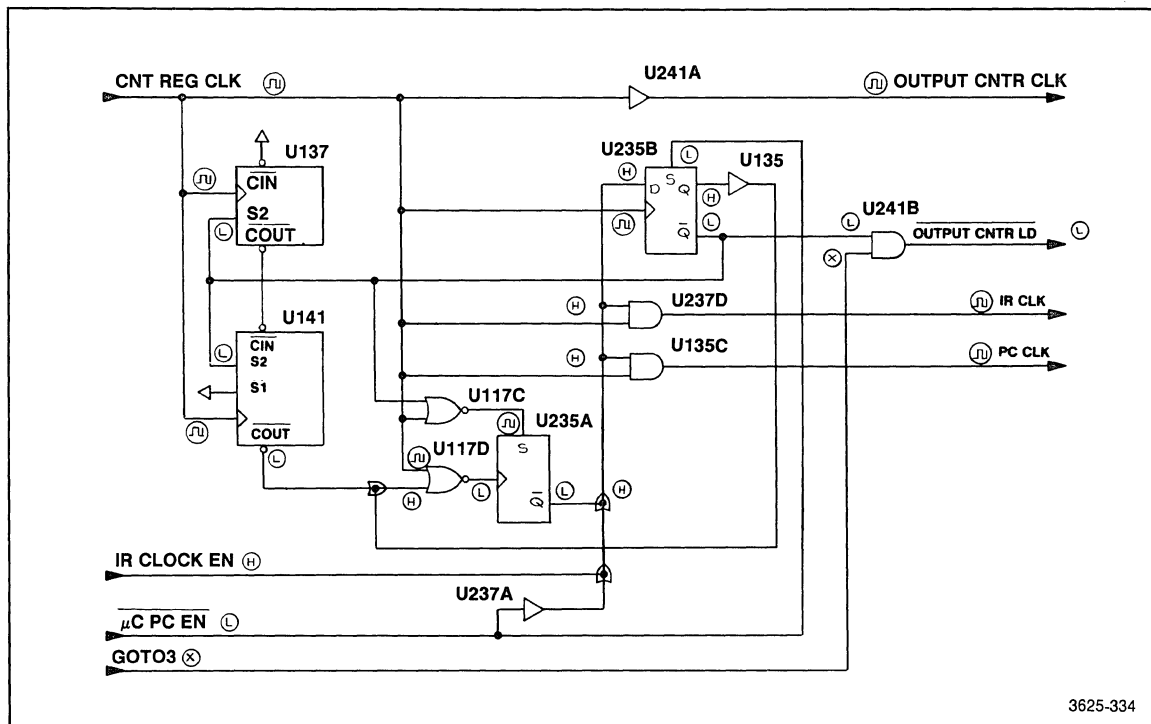
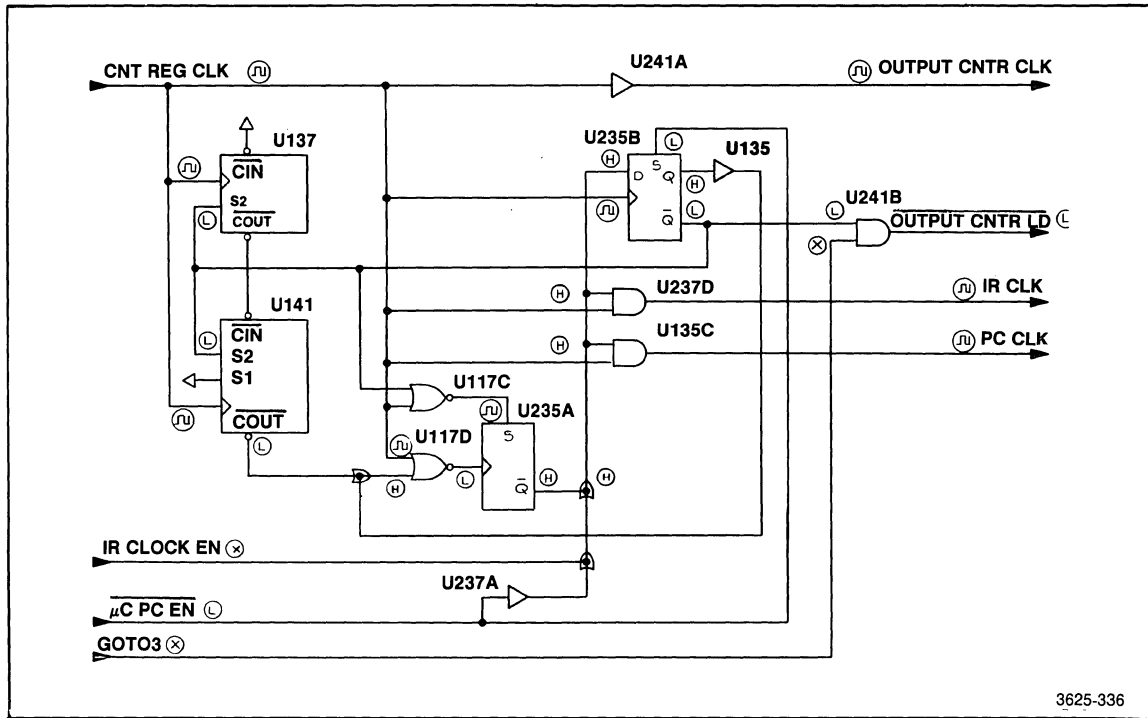
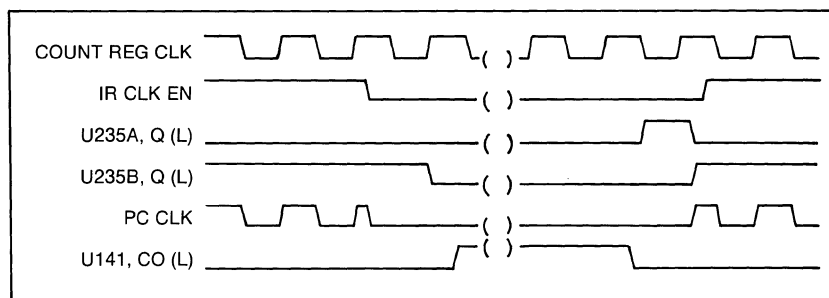

Figure 4-38. Clock control: non-count logic state.
Figure 4-40. Clock control: end-count logic state.
Figure 4-41. Pattern generator clock control timing diagram.
Register U235B outputs a low on its Q(L) output. The low on Q(L) holds the counters in count register U137 and U141 in the load mode so the counter's CO(L) outputs are low. The clock control circuit is stable in this condition. Figure 4-38 shows what the logic levels are in this state.
At the next rising edge from the clock, a high is logged into U235B. The high from the Q(H) output of U235B stops the clock from passing through NOR gate U117D. The low on the Q(L) pin of U235B allows the inverted clock to reach the set pin of U235A. The Q(L) pin of U235B also sets counters U137 and U141 to load data rather than increment, and forces the output of AND gate U241B low. The logic levels at this point are those shown in Figure 4-40.
The situation shown in Figure 4-40 remains until the clock falls low. When this happens, NOR gate U125D outputs a high. This sets register U235A so Q(L) goes low. When Q(L) goes low, it returns to the state it was in initially, as shown in Figure 4-38. Another low IR CLK EN(L) can be accepted at any time. Figure 4-41 is a timing diagram for the clock control circuit.